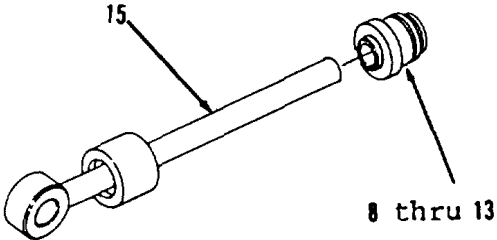
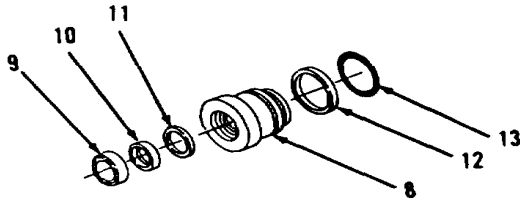

Figure 17-32.
Figure 17-33.
6. Remove items 8 thru 13 as an assembly (Figure 17-32).
7. Remove and discard seals (9 thru 11), ring (12) and preformed packing (13) from head (8, Figure 17-33).
2. Using clean hydraulic fluid, lubricate new seals (11 thru 9, Figure 17-33).
3. Using seal installer, install new seals (11 thru 9) on head (8). Lip on center seal (10) faces inside head (8). Lip on outside seal (9) faces outside head (8).
4. Install new preformed packing (13) and new ring (12) on head (8).
5. Install items 13 thru 8 as an assembly on rod (15, Figure 17-32).